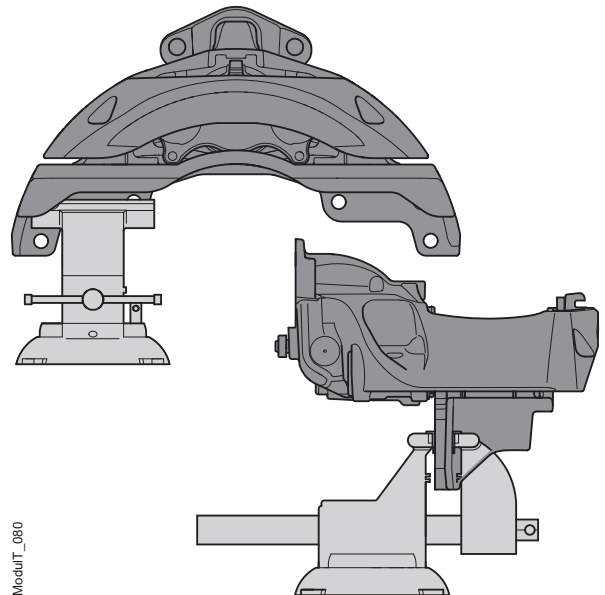

Figure 41. Clamping arrangement for replacing adjustment screw bellows
1. Fasten the disc brake securely in a vice with soft jaws, see figure 41 for clamping arrangement. Ensure that the jaws of the vice do not damage the disc brake.